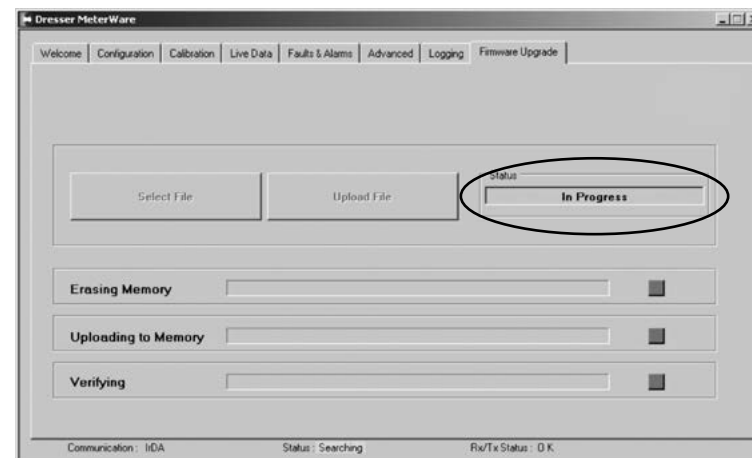

Figure 15.6 - MeterWare software showing In Progress status
- F. In the **Status** box on the Firmware Upgrade screen, the message **In Progress** will appear (Figure 15.6)